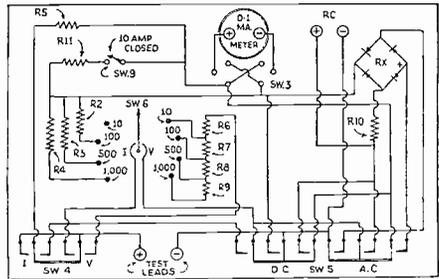

Fig. 2. The analyzer volt-milliammeter unit schematic diagram. Refer to List of Parts below for values of all resistors.
**T**HIS testing instrument consists, essentially, of a universal volt-milliammeter, Fig. 2, and a free-reference-point unit, Fig. 1. Three sockets are available for current readings of all modern tubes.
Voltage scales, A.C. and D.C. of 10, 100, 500 and 1,000 are selected, as shown in Fig. 2, by means of a rotary selector-switch, Sw.6. Rotating the same switch in the reverse direction, selects current scales of 10, 100, 500 and 1,000 ma. Setting the toggle switch Sw.10, cuts a 10-A. shunt directly across the meter.